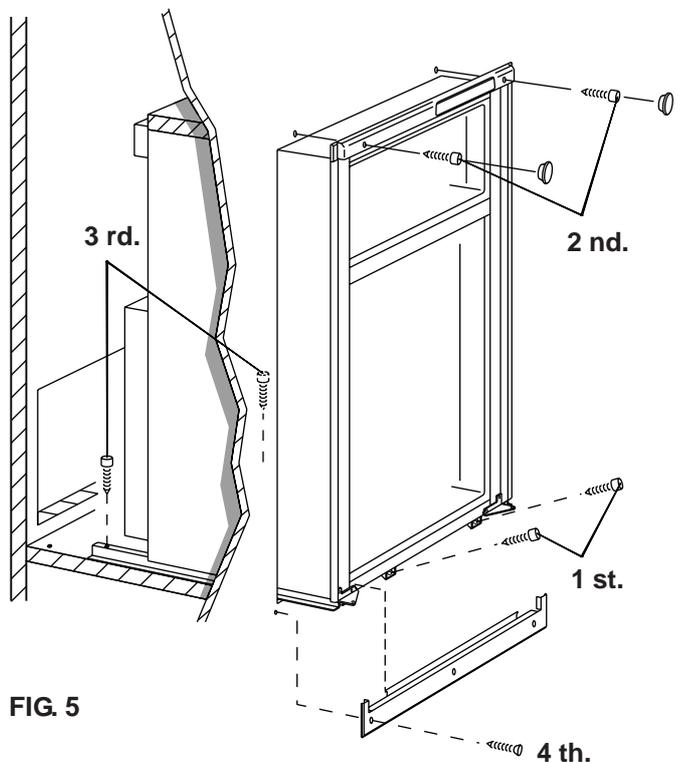

FIG. 5
**STEP 4:** The refrigerator is provided with a lower front strip (shipped as a loose part). The front strip is to be attached after the refrigerator is set into the cutout opening, and secured with 3 screws, (not included). (See FIG. 5).